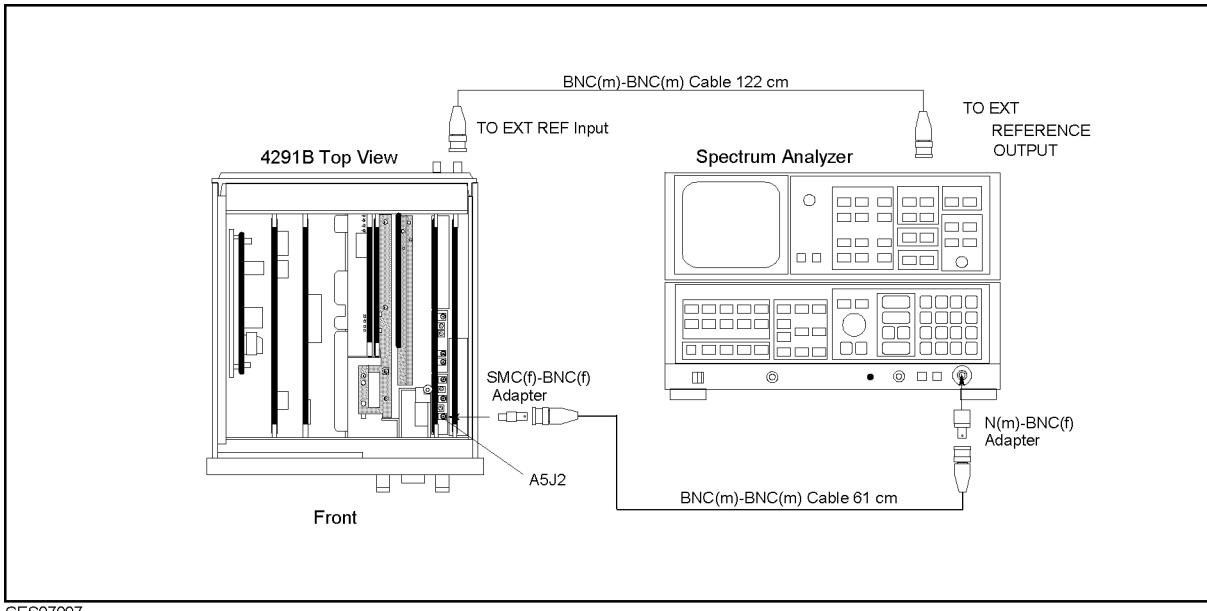

Figure 7-7. STEP OSC Test Setup
a. Remove the “L” cable from the A5J2 “STEP PLL OUT” connector. Then connect the equipment as shown in Figure 7-7.